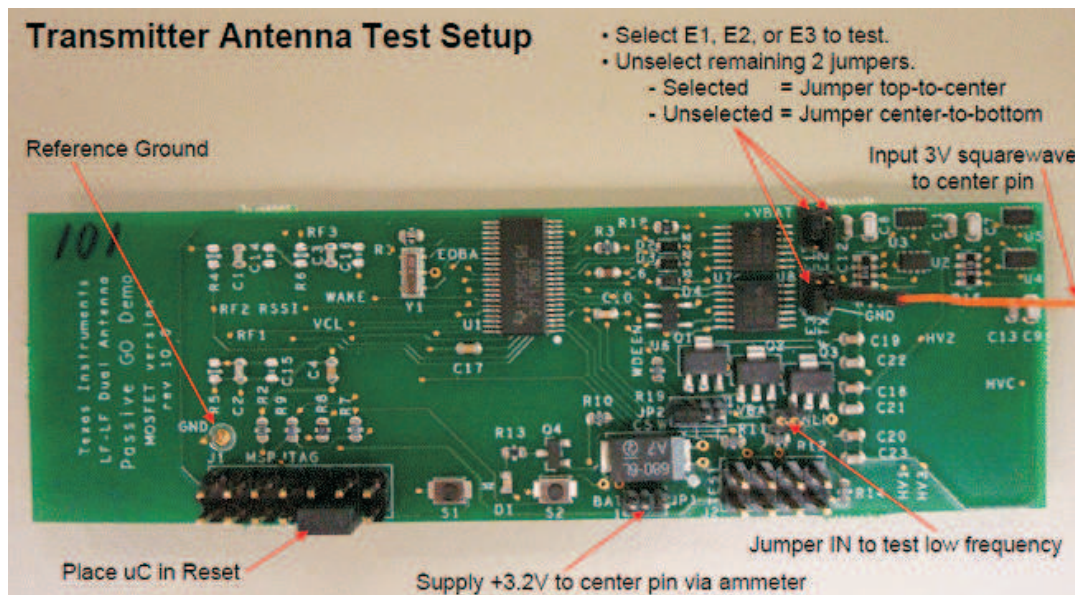

Figure 21. Transmitter Antenna Test Setup
The transponder has jumpers that were not previously mentioned, which make this process quite simple. Rather than writing software to properly setup the antennas for testing, it can be done by simply placing jumpers on the transponder board (see Figure 21).
- There are four 3-pin jumpers labeled E1, E2, E3, and TX shown in Figure 21. E1 is associated with channel 1 (RF1, HV1, Z-axis), E2 is associated with channel 2 (RF2, HV2, Y-axis), and E3 is associated with channel 3 (RF3, HV3, X-axis). To select E1, place a 0.05" jumper between the top and center pins. You must disable channels E2 and E3 by placing two other jumpers between the center and bottom pins of E2 and E3.
- The TX jumper is used to drive in a frequency between ~110 KHz and 150 KHz (orange wire shown in Figure 21). The signal swing must be from 0 V to 3 V. Be sure to check the output swing of the frequency generator as they usually assume a 50 Ω load. Without this load, they output 2X the expected voltage, which could damage the board. The lower pin of the TX jumper can be used as the ground reference for the frequency generator, or use the large GND pin at the lower-left corner of the board.